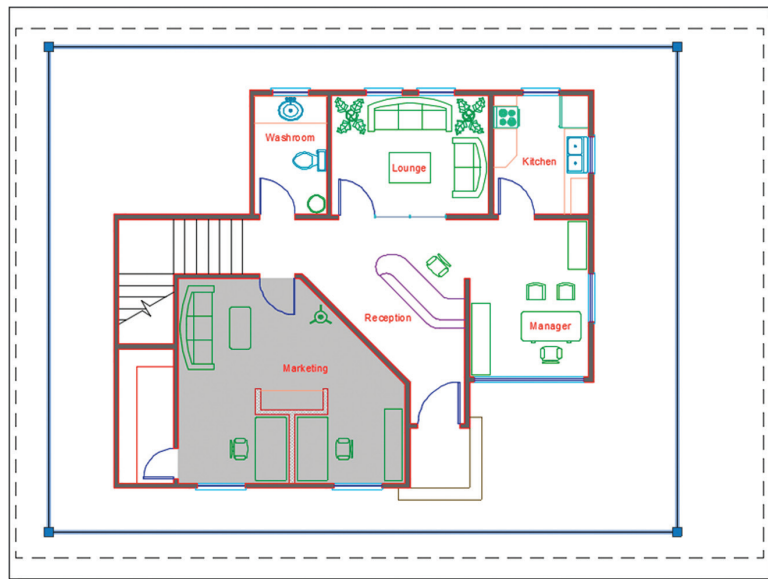

FIGURE 14.20 Configuring Layout1 to display the drawing in 3/8" scale
6. Select the viewport and stretch its grips to reveal and center the entire building, as shown in Figure 14.20. You might need to move the viewport to center the building on the page, depending on how you stretch the grips.